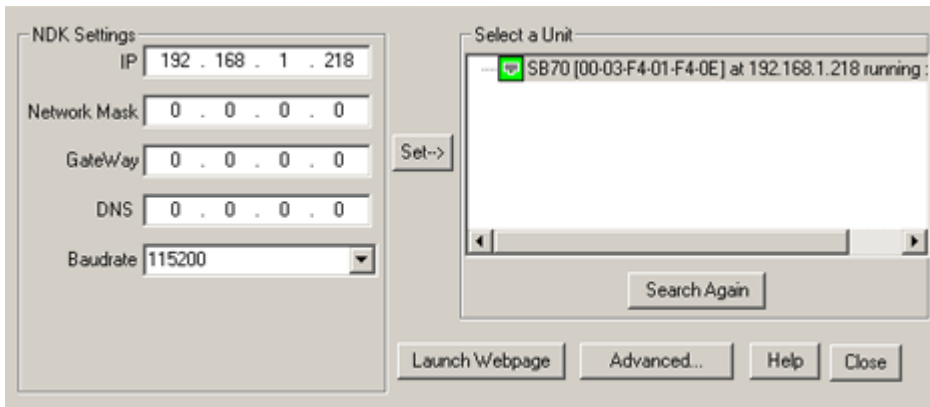
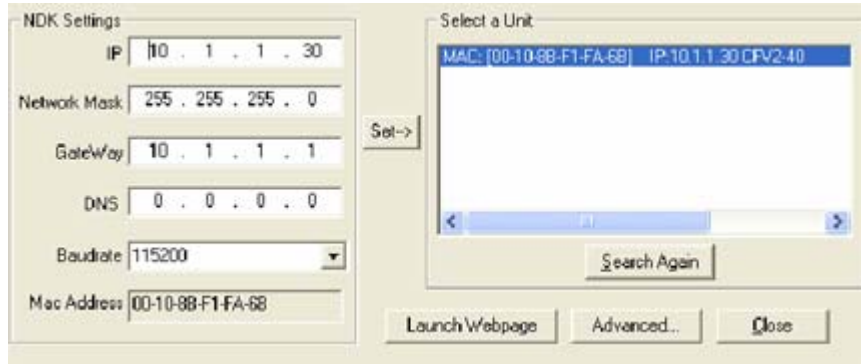

FIGURE 3-2. PS FIND SCREEN
FIGURE 3-3. SETTING A STATIC IP ADDRESS
The PSfind utility is supplied on the CD that comes with the unit, or can be downloaded from the Kepco web site at www.kepcopower.com/drivers. This utility finds all operational Kepco power supplies connected to the LAN and then shows the pertinent addresses of the models found. To run the utility from your PC go to \utilities on the CD. This directory only contains one file `psfind.exe`. Copy the file to your computer or run it directly from the CD itself. A separate window opens as shown on Figure 3-2.
- To set a static IP address, enter the static address in the IP ADDRESS field and the Mask address in the Network Mask field (Figure 3-3 shows a the IP Address, Network Mask and Gateway changed from that shown in Figure 3-2), then highlight the desired unit and click the Set button. There will be a short pause while parameters are updated. If you do not see your device in the "Select a Unit" window, make sure it is turned on and connected to the network, then click the Search Again button.